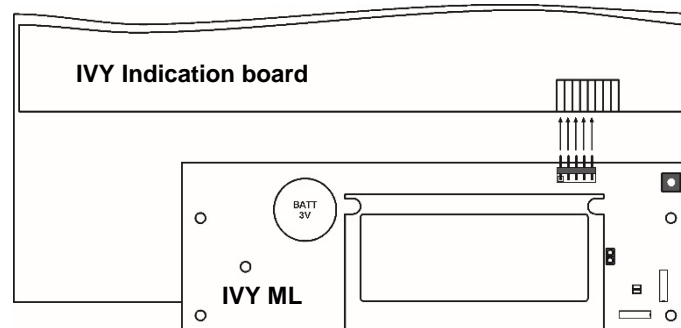

Figure 20 – Interface connection between IVY LOG module and indication PCB
**The pins on the interface connector of the module must be connected exactly as shown on Figure 20!**